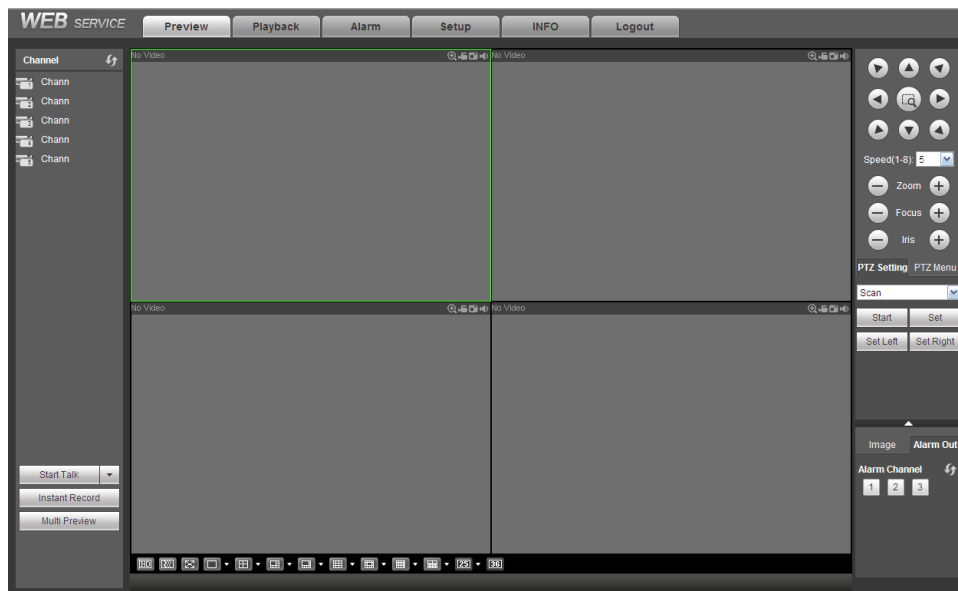

Figure 4-18
- 2) You can select different channels and different monitor modes at the bottom of the interface. See Figure 4-18.